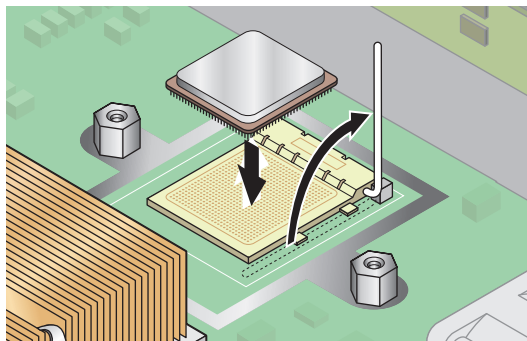

FIGURE 10 Installing a CPU in its Socket
2. Ensure that the socket release lever is in the fully open, perpendicular position (see FIGURE 10).
5. When the CPU is fully seated in the socket, rotate the socket release lever down until it snaps into place, securing the CPU in the socket (see FIGURE 10).